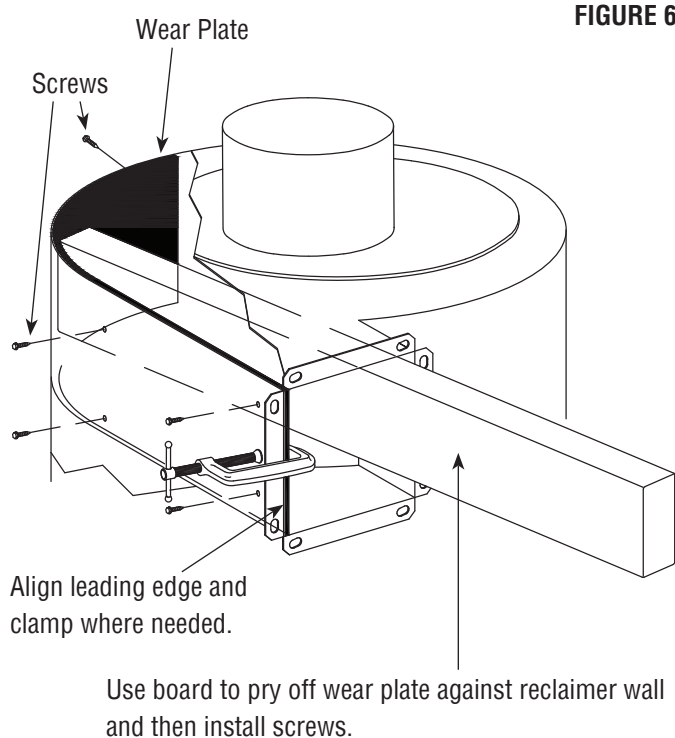

FIGURE 6
– **Figure 6**
7.2.1.6 | Use a board or similar object as leverage to pry the wear plate against the inner wall of the reclaimer, as shown in **Figure 6**.